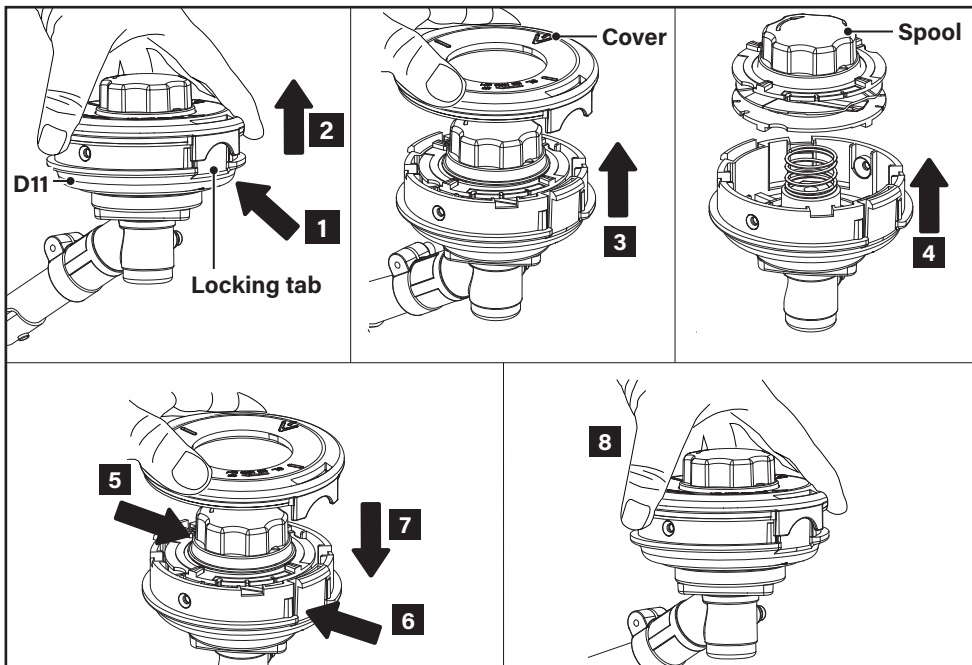

Fig. 22
2. Hold the cover of the string trimmer head (D11). Using the index finger and thumb firmly squeeze the locking tabs on the string trimmer head (Fig. 22, step 1, 2). Remove the cover of the string trimmer head (D11) (Fig. 22, step 3).
3. Remove the spool from the string trimmer head (D11) (Fig. 22, step 4).
4. Install the new spool into the string trimmer head (D11) (Fig. 22, step 5).
6. Press the locking tabs (Fig. 22, step 6) and push the cover of the string trimmer head (D11) onto the string trimmer head housing (Fig. 22, step 7). Make sure they are secured tightly.